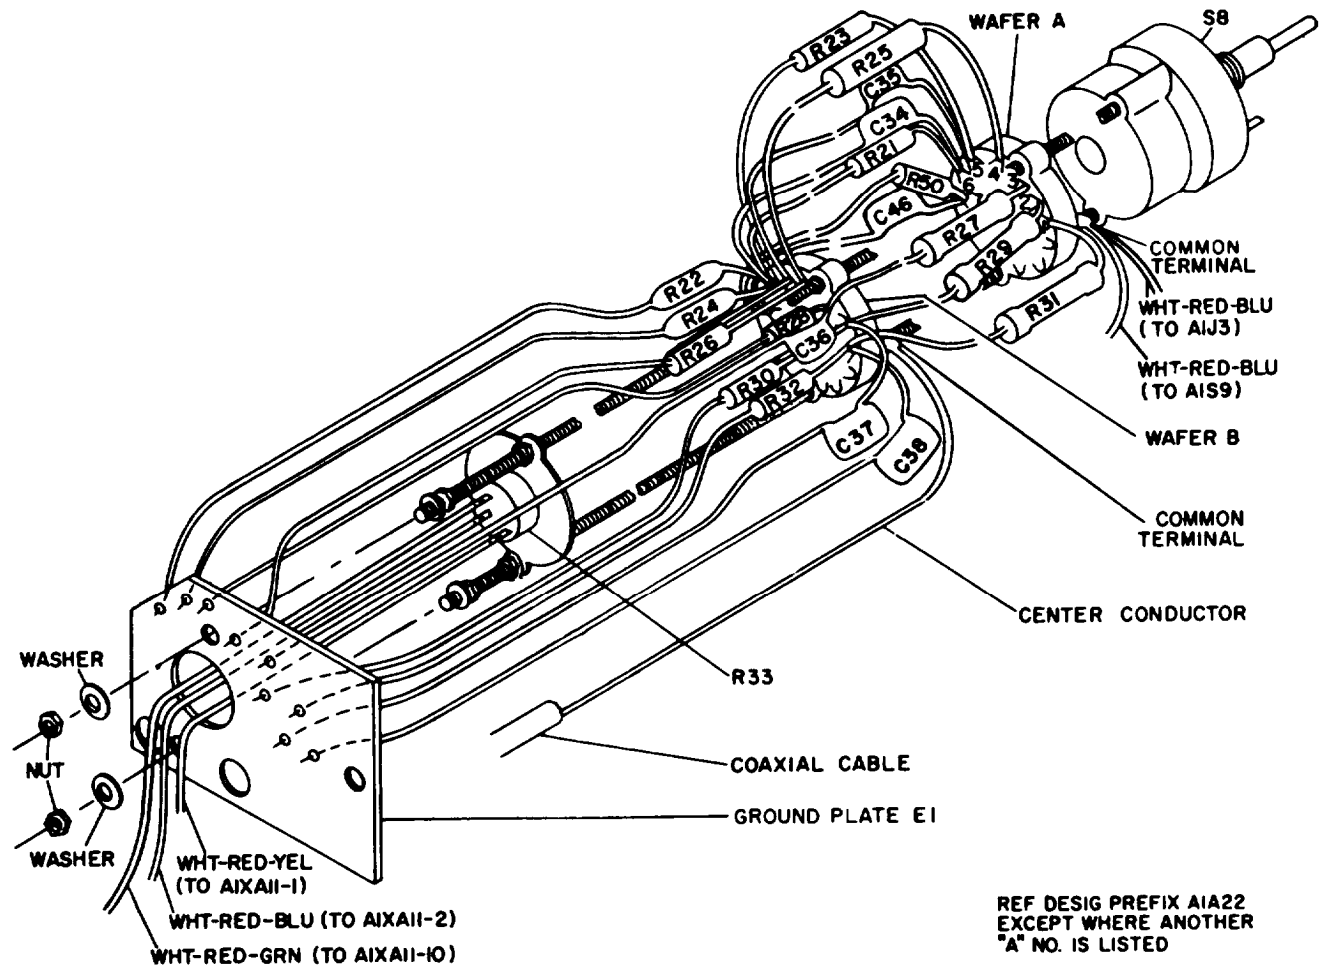

Figure 5-11. Charnel B Variable Attenuator A1A22, Location of Parts and Connections
(7) Disconnect the center conductor of the coaxial cable from the common terminal of wafer B, the shield from the terminal on the bracket, and the two white-red-blue leads from the common terminal of wafer A (figure 5-11). Code mark leads to insure proper reassembly.
(8) Remove and discard defective A1A22.
(9) Insert replacement wafer assembly from the inside, with shaft through mounting hole in the left section of the front panel. Be sure that positioning key is seated within the recess in the left section of the front panel.
(10) Connect and solder the coaxial cable and the two white-red-blue leads removed in step (7) to the appropriate terminals of A1A22.
(11) Place mounting nut and lockwasher on outer shaft of replacement wafer assembly then tighten mounting nut.
(12) Pass the white-red-yellow, white-red-green, and white-red-blue leads removed in step (6) through the grommet of the printed-circuit board, then solder them to the appropriate terminals as marked in step (6).
(13) Replace black knob A1MP11 on the outer shaft and temporarily tighten one of the set-screws, then turn to the extreme clockwise position.
(14) Loosen the setscrew tightened in step (14), slide knob so that the .1 marking on the knob aligns with the 0 marking on the left section of the front panel, then tighten both setscrews.
(15) Turn inner shaft to the extreme counterclockwise position.
(16) Place red knob A1MP8 on the inner shaft so that index point faces the -6 marking on the left section of the front panel, then tighten both set-screws.
(17) Replace the left section of the front panel in the chassis, and secure with the three screws.